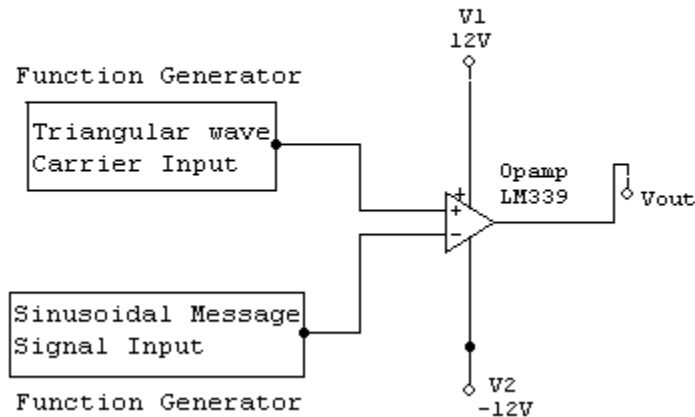

Fig. 8.3 Pulse Width Modulation
- 3) For the pulse width modulation (PWM), assemble the circuit as shown in Fig. 8.3. Adjust the carrier (triangular wave) and signal inputs (sinusoidal) to generate a pulse width modulated signal of frequency 1kHz, 20kHz and 50 kHz and duty cycle of 40%. For the best result the ratio of carrier frequency to the signal frequency for the PWM should be around 25:1 Trace the modulated signal, note the frequencies of the input signals.